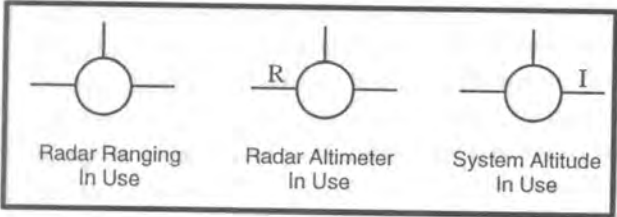

Figure 8-20 Sensor In Use Indications
8.89 The sensor in use is indicated on the HUD by the presence or absence of a character around the flight path marker as shown in Figure 8-20.